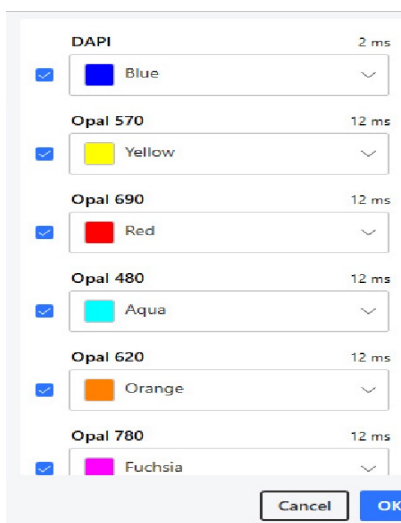

Figure 5.6. Select Filters window.
- After clicking the Select Bands button, the select filters window opens, which allows one to choose the filters used to take the slide scan. (See Figure 5.6.) Imagery for each band will be taken in the order it is shown. To remove bands, uncheck the band. The colors associated with each band can also be changed; these are the colors that Phenochart will use to display the scan.